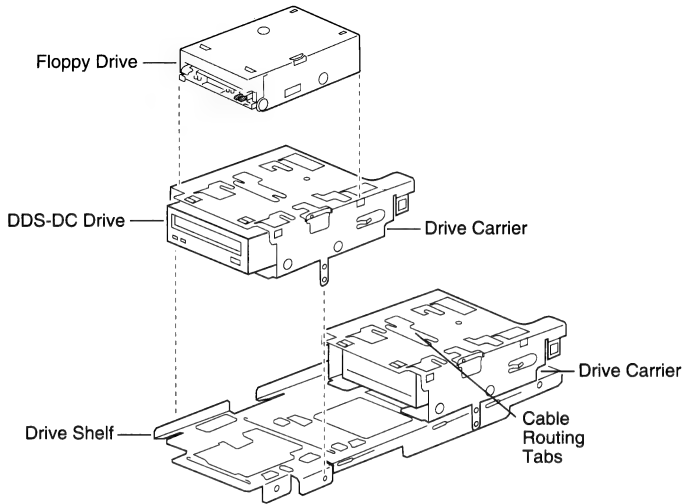

Figure 11 DDS-DC Tape Drive Installation
6. Install the DDS-DC drive on the drive shelf in the front position and verify that the SCSI ID number is set to 2 (see Figure 11).